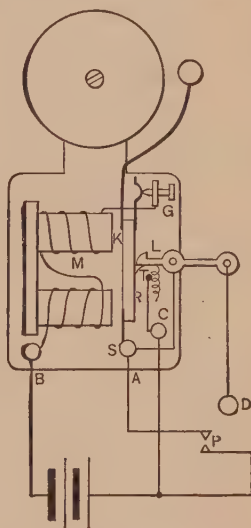

FIG. 190. Continuous-ringing bell.
**113. Continuous-ringing Bell.** In Fig. 190, the bell has an added terminal *C* which is connected directly to the battery. When the circuit is closed at *P* the armature is drawn toward the magnet. This releases the lever *L* from the detent *T*, and a small spring pulls it into contact with the post *R*, which is connected to *C*. Thus a circuit is at once completed from the battery to *A* through the terminal *C*, the post *R* and the lever *L*, which is connected directly